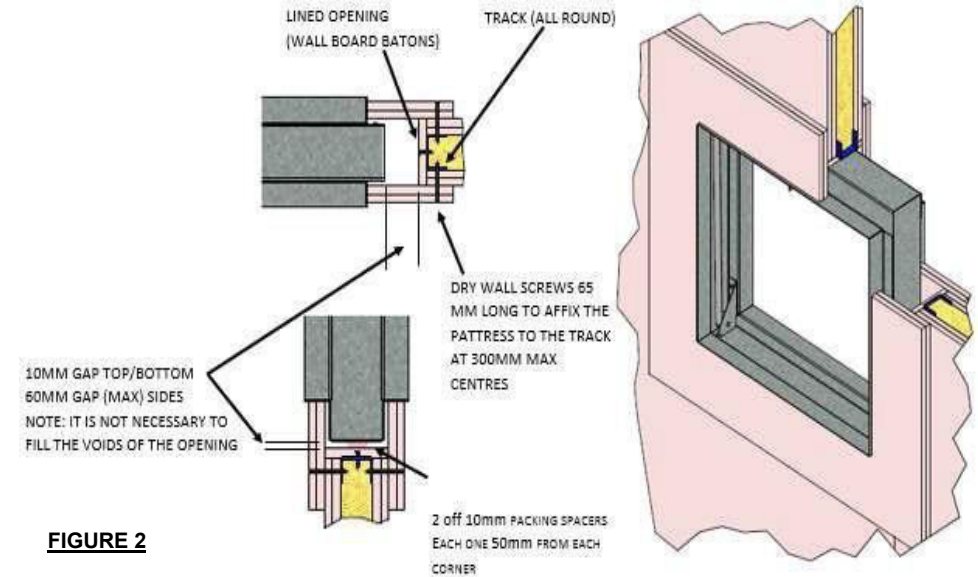

FIGURE 2
6.2.1 The opening must be 'lined out' 10mm (-0+5mm) clearance top and bottom and 60mm maximum per side. (see fig 2).
7 Dry wall – Pattress Fit and Cleated Damper – Fig. 2